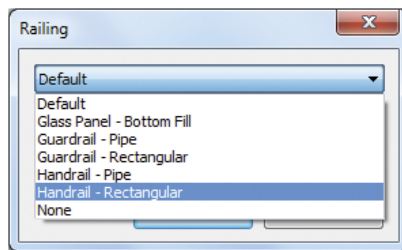

FIGURE 4.7 Specifying the railing type
- Select the Railings tool in the Tools panel of the ribbon. Specify the Handrail - Rectangular type (Figure 4.7), and click OK to close the dialog.